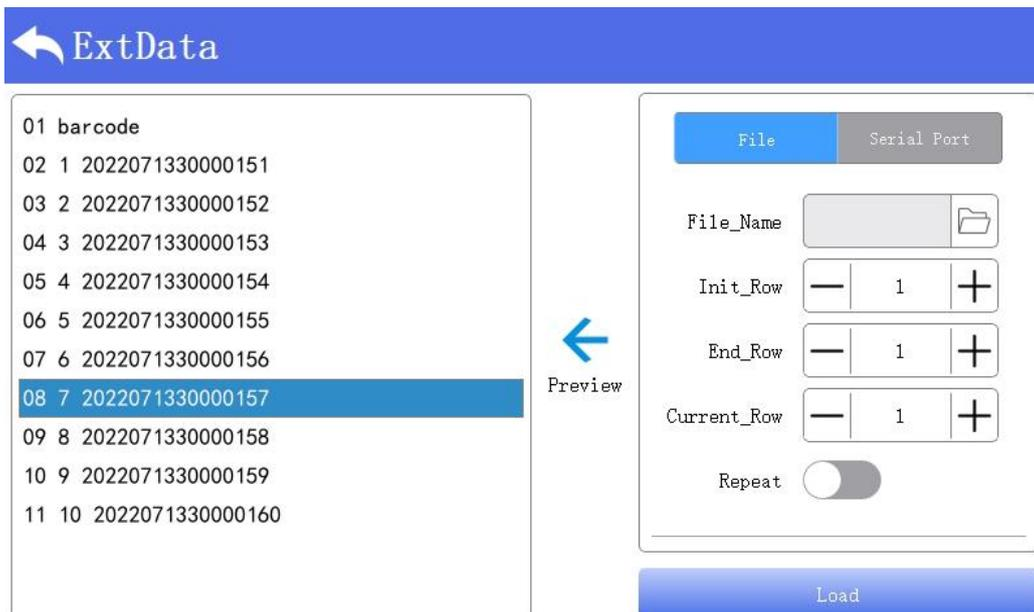

Figure 3.2.9.1 External file data
- ① The user can click  to select a "text file" and set the start line, end line, current line, and whether to repeat to define the rules that can be changed to print the content. As shown in Figure 3.2.9.1.